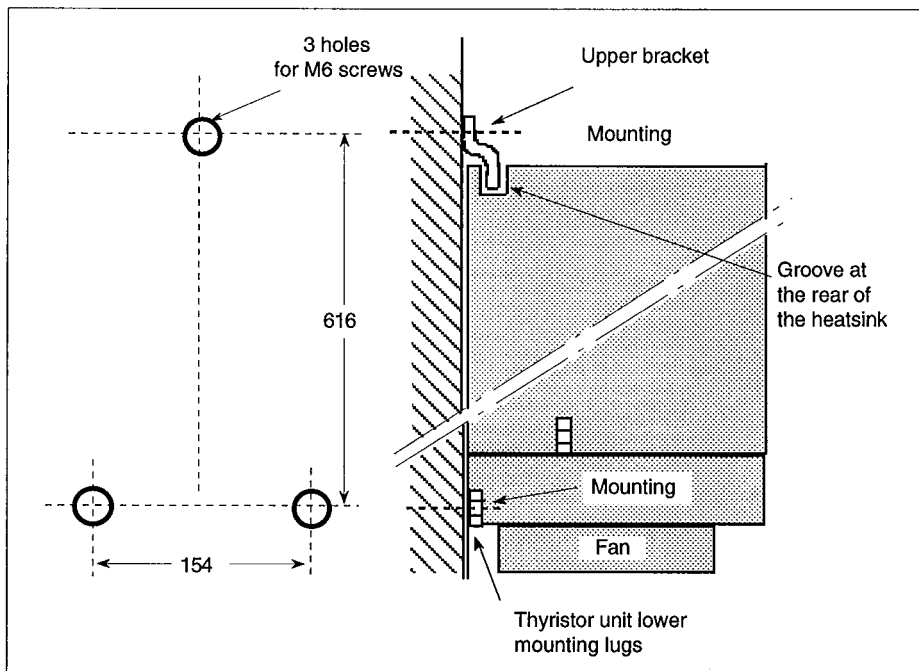

Figure 2-5 TU1470 thyristor unit drilling and mounting values
- Fit the two **M6** lower screws in the cabinet, observing the drilling values (figure 2-5).